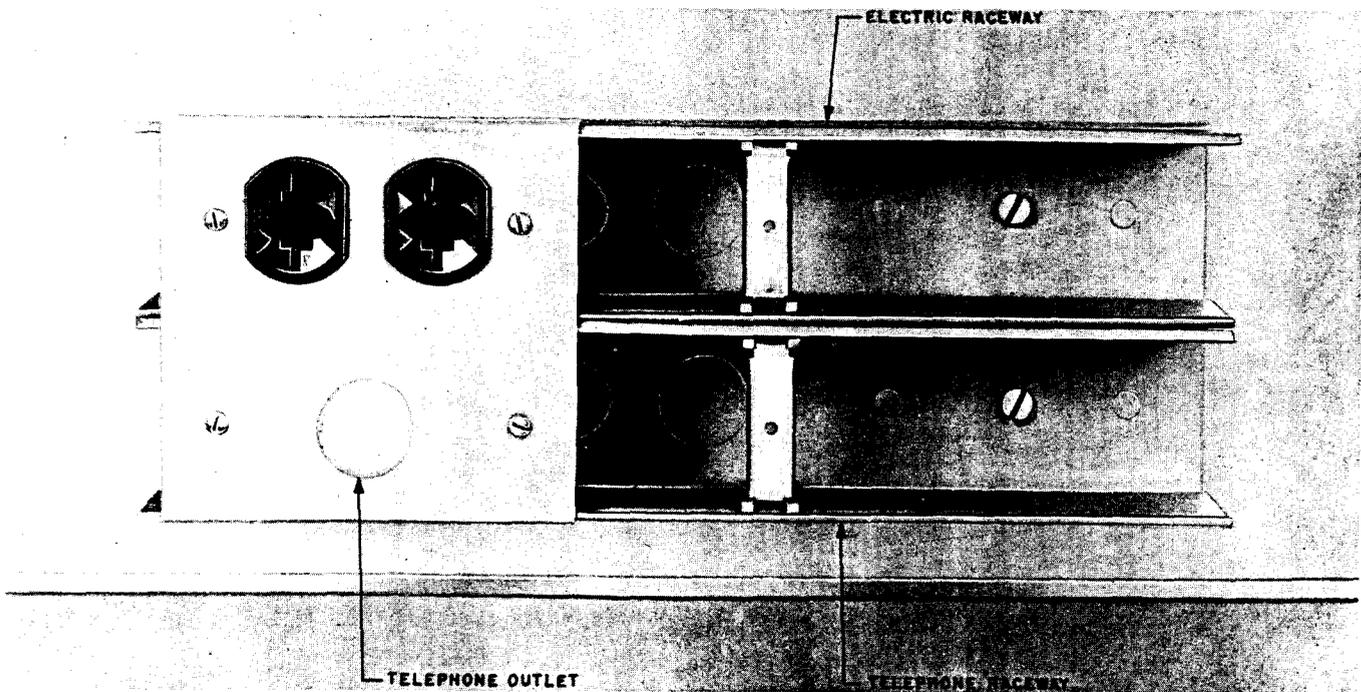

Fig. 3 – Metal Twinduct Raceway
- This system is mounted flush with wall surface or as a metal baseboard (Fig. 3).